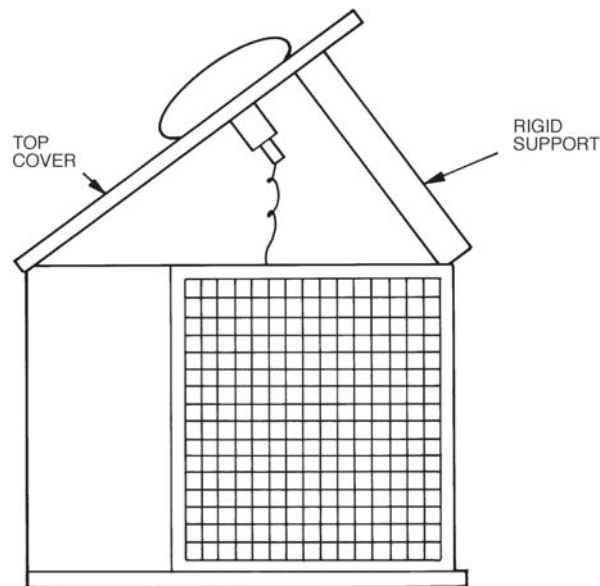

Fig. 32 - Pivot and Support Top Cover
2. Remove screws holding rear corner post and top cover in place. Pivot top cover up 12 to 18 inches (305 to 457 mm) and support with a rigid support. See Fig. 32.